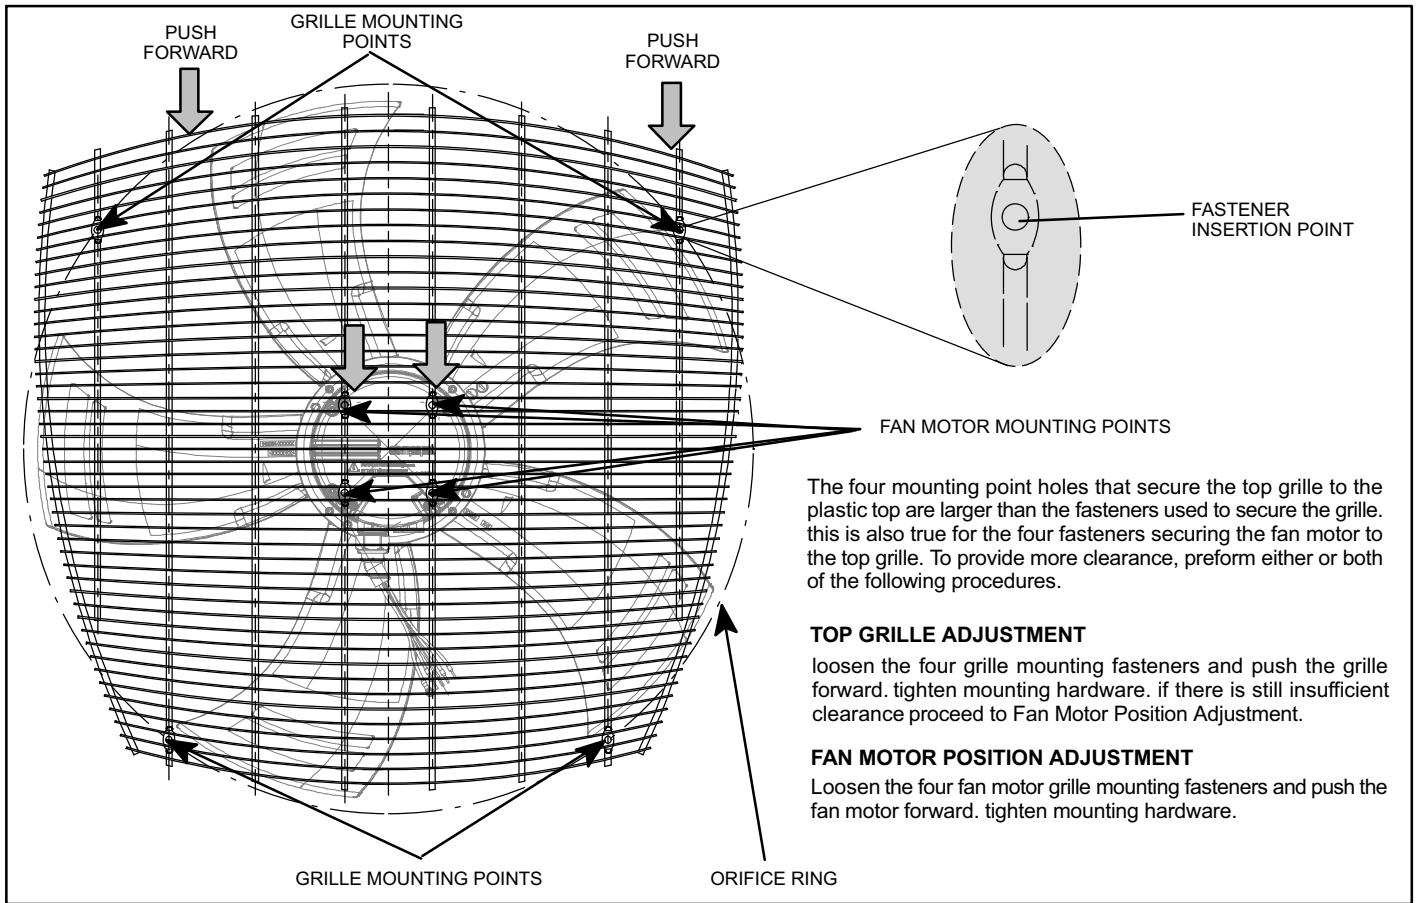

Figure 4. Fan Blade Clearance Adjustment
4. Set grille / fan assembly back over orifice ring and install screws. **Confirm there is sufficient clearance between fan blades and orifice ring. If adjustment is required then see figure 4.**
Sometimes either the fan motor mounting or top grille may become out of alignment. This may cause the fan motor blade to not clear the orifice ring. If this situation occurs, simply adjust either or both the fan motor mount or top grille positions to allow proper clearance. The top grille four fastener insertion points to the plastic top and motor mount locations are larger than the fasteners used to secure the grille and fan motor mounts. Use the procedures provided in figure 4 to adjust for fan clearance.